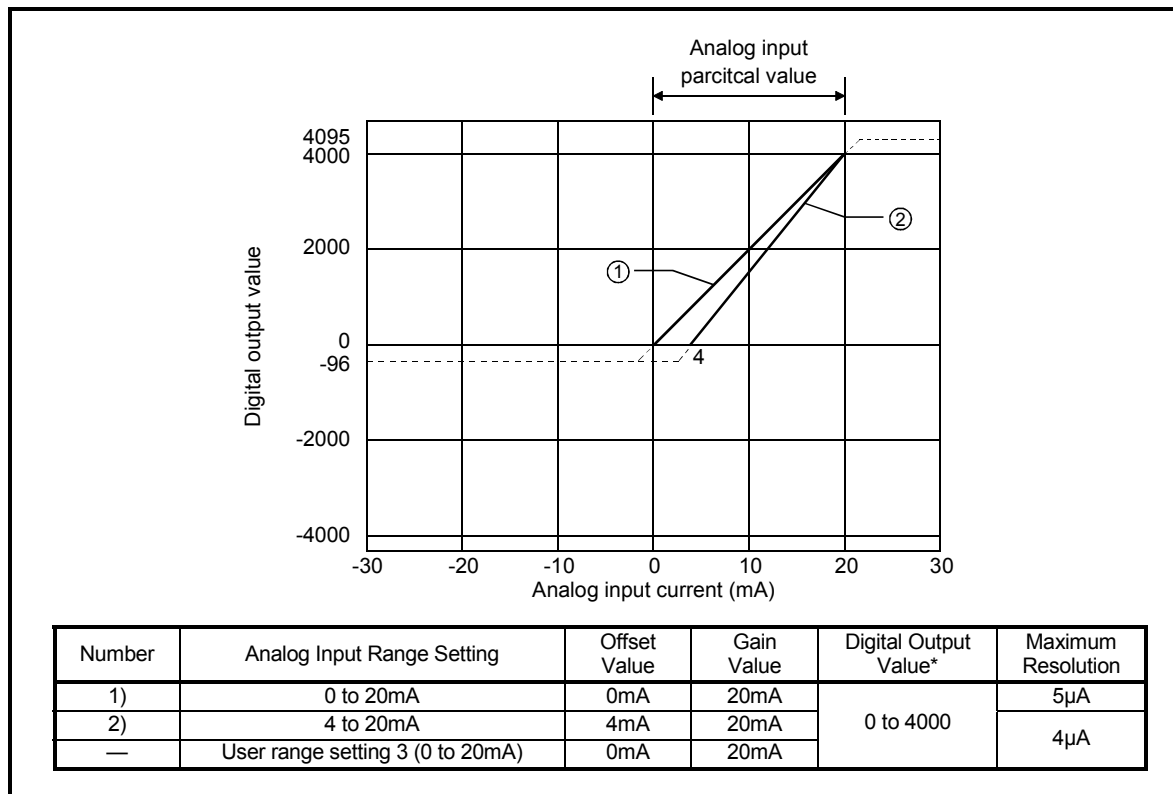

Fig. 3.2 Current Input Characteristic
- (1) Do not input more than $\pm 30\text{mA}$. A breakdown may result due to heat increase.
- (2) If the analog input provided corresponds to the digital output value* beyond its range, the digital output value is fixed to the maximum or minimum.
- (3) Within the analog input and digital output scopes of each input range, the maximum resolution and accuracy are within the performance specification range. Outside those scopes, however, they may not fall within the performance specification range. (Avoid using the dotted line part in Fig. 3.2.)
- (4) Set the offset and gain values of the user range setting within the range satisfying the following conditions.